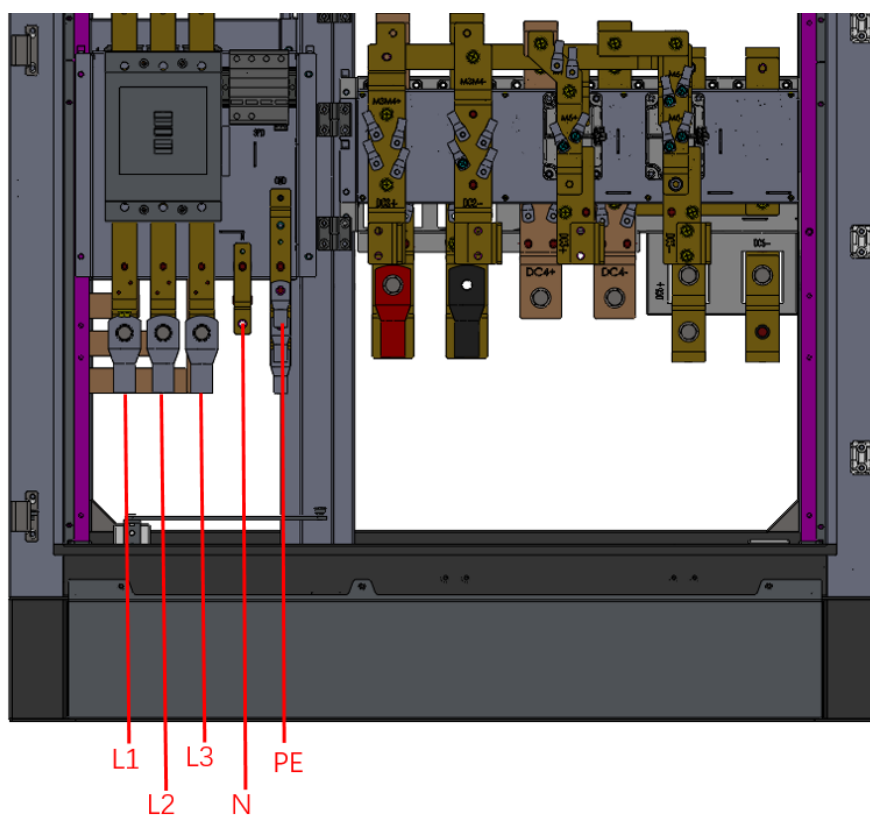

Figure 21 Schematic diagram of AC power copper busbar in the power cabinet
(1) AC power cable wiring of power cabinet: Connect the power cable to the wiring copper busbar in the power cabinet. The wiring copper busbar is shown in Figure 21. The neutral line is optional.